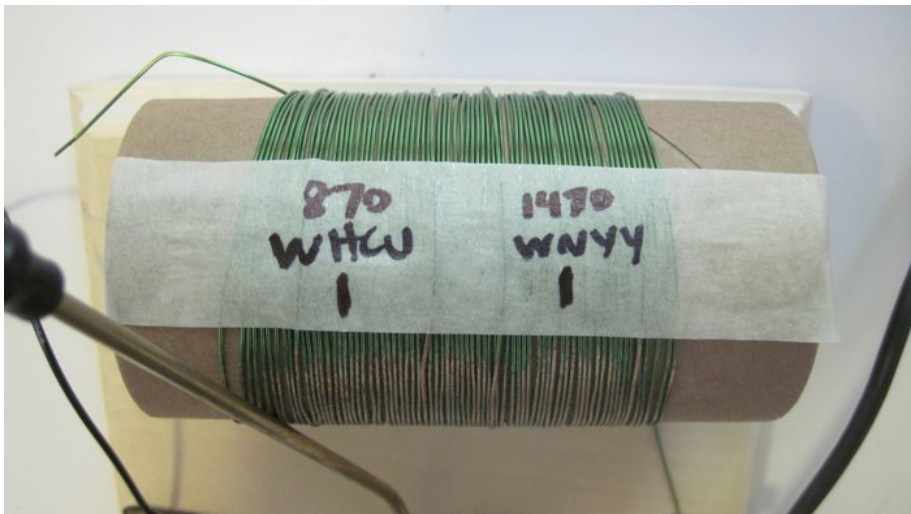

Figure 20. Use a strip of masking tape and a permanent marker to help you identify stations more easily on your coil.
4. Once you have identified stations that you can receive, put a strip of masking tape lengthwise on your coil. Use a permanent marker to mark the location where you heard the station, and write down the station's **call sign** (for example, you may hear the DJ say "You're listening to WHCU", which is the call sign). You may also hear a number associated with the station, such as "WHCU 870." The number is the frequency at which the station broadcasts in kilohertz (kHz). You can also write this number down, as shown in Figure 20. This will help you find stations again easily. *Note:* Depending on the strength of a station, there may be a wide range (a couple centimeters) on which you can receive it using your tuning coil. If this happens, make a mark in the middle of the range.